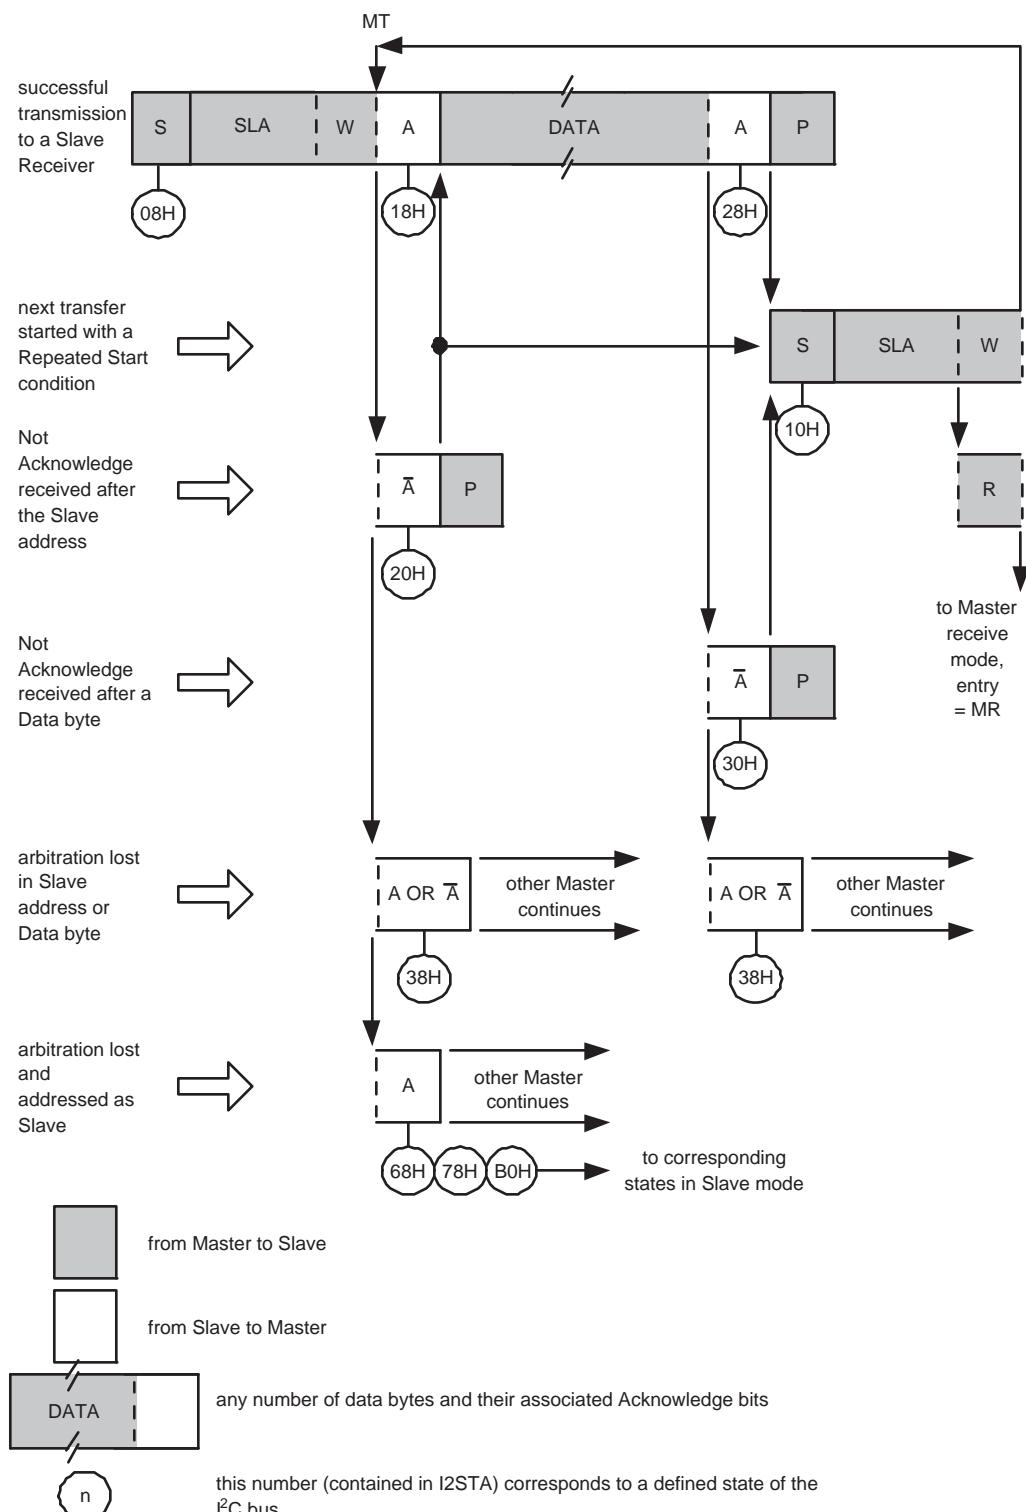
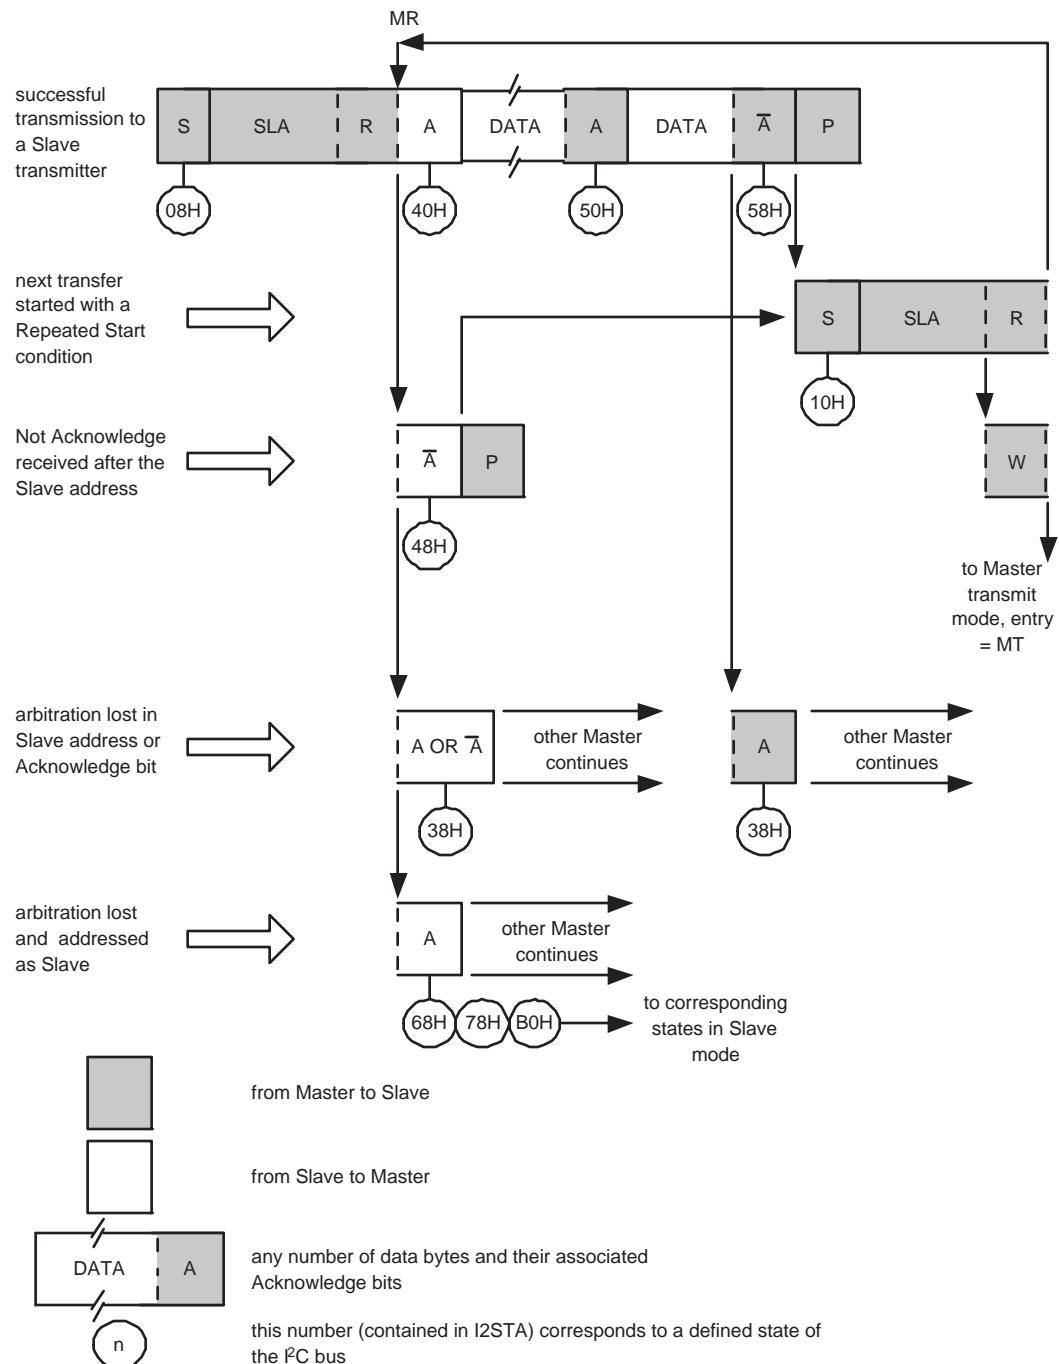
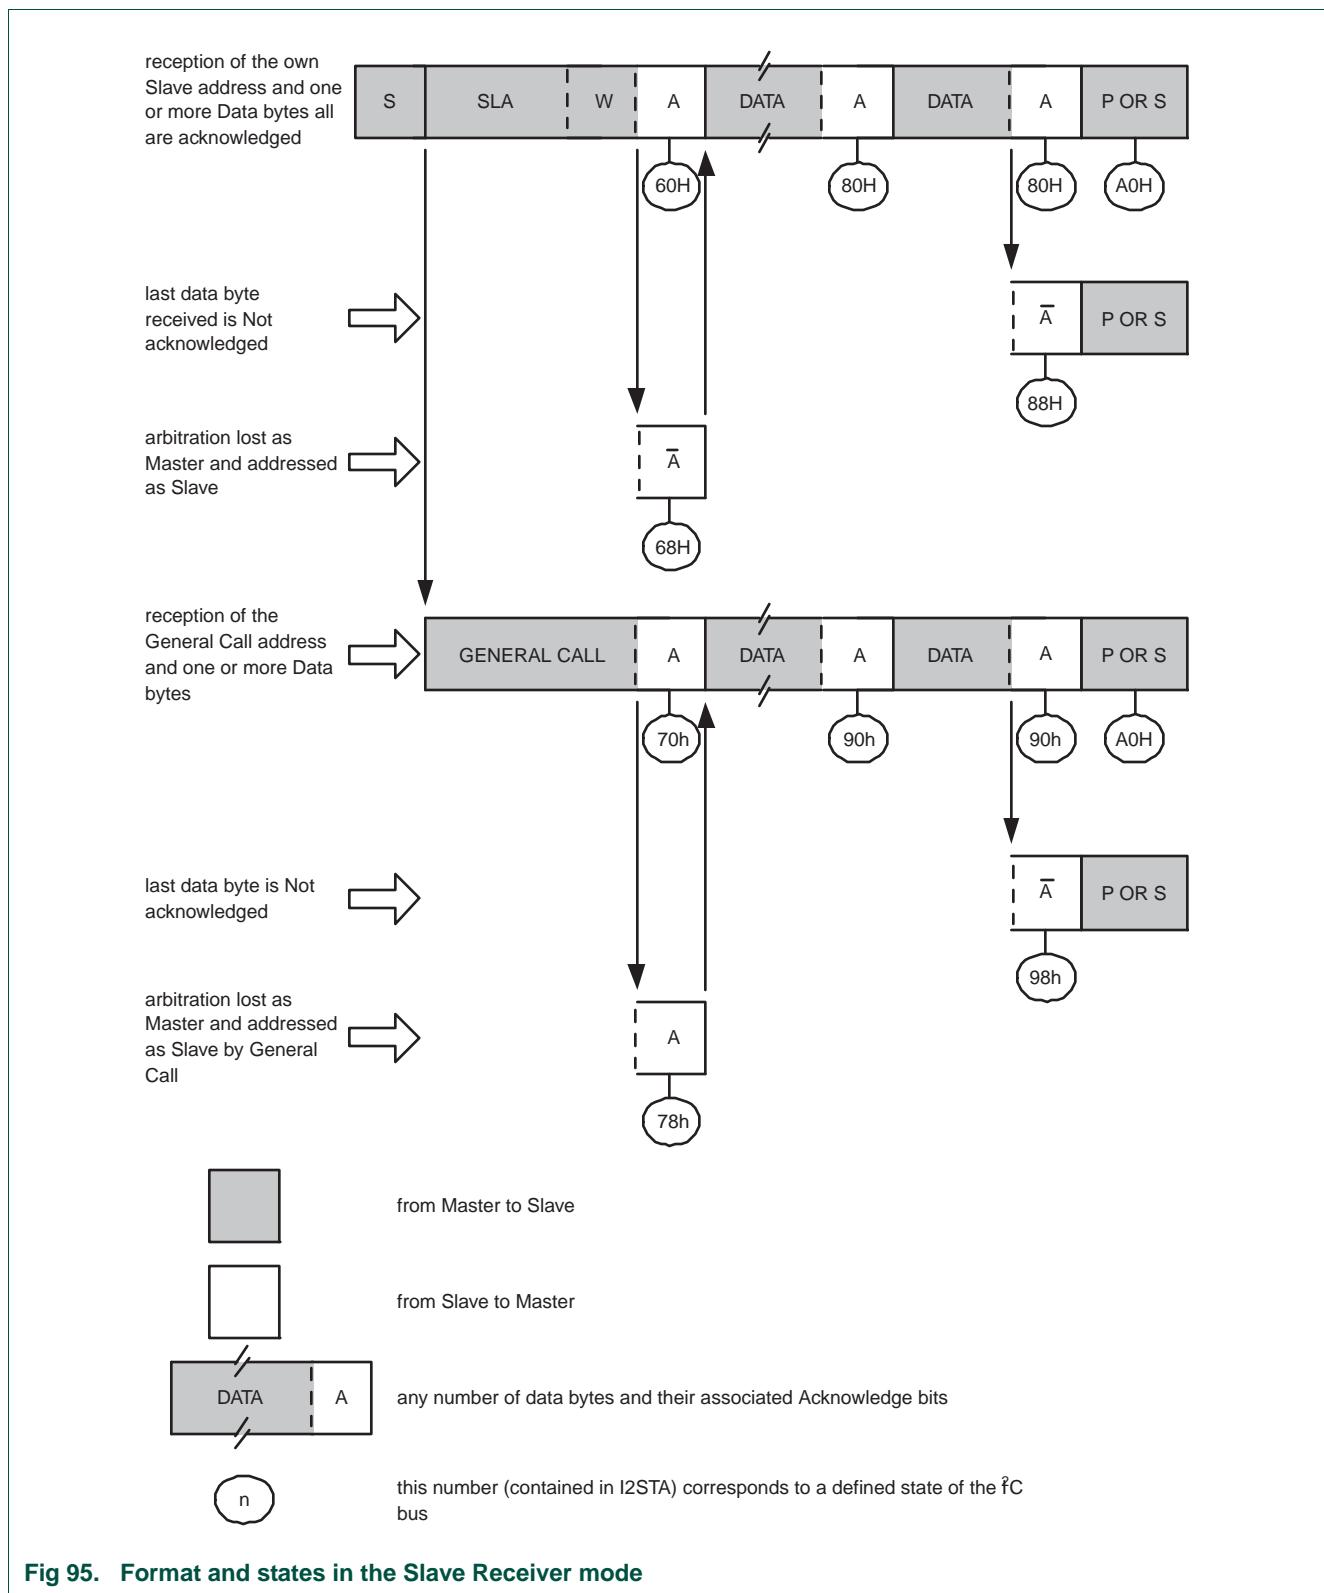
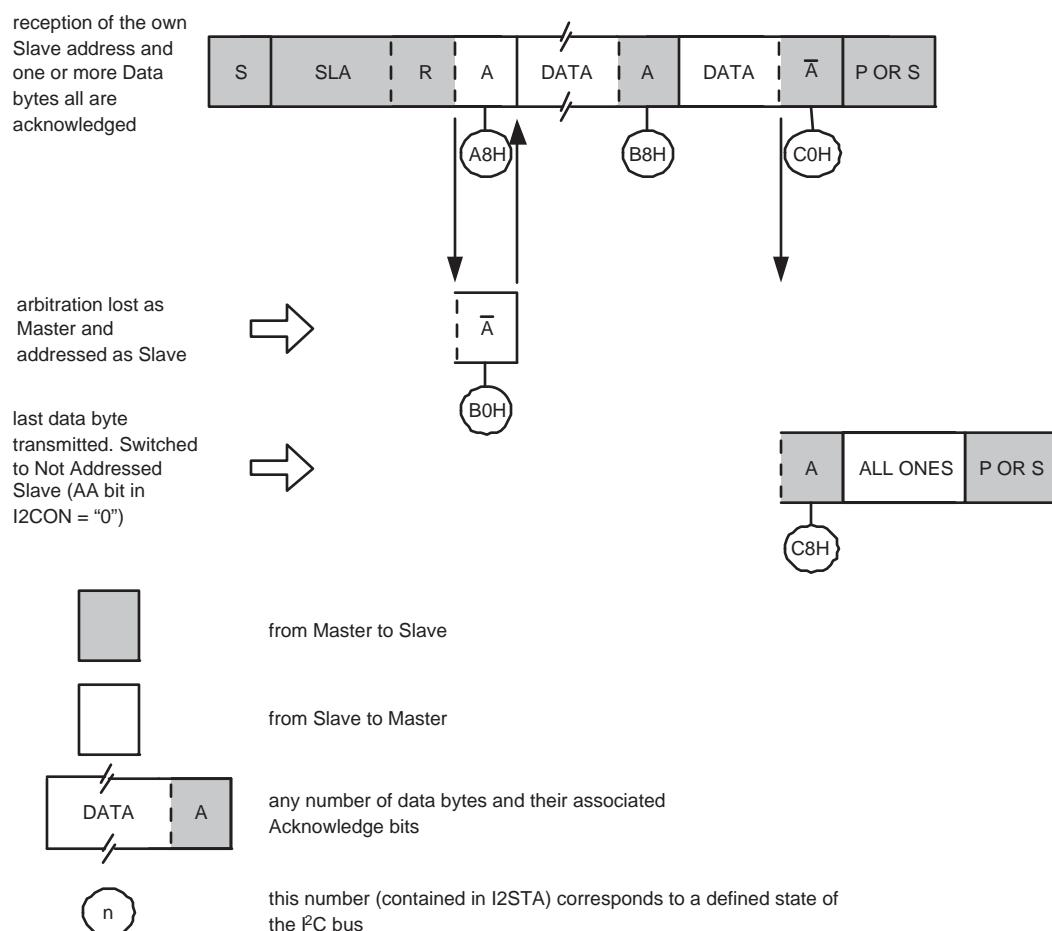

Fig 93. Format and states in the Master Transmitter mode
Fig 94. Format and states in the Master Receiver mode
Fig 95. Format and states in the Slave Receiver mode
Fig 96. Format and states in the Slave Transmitter mode
Data transfers in each mode of operation are shown in Figure 93, Figure 94, Figure 95, Figure 96, and Figure 97. Table 395 lists abbreviations used in these figures when describing the I²C operating modes.
In Figure 93 to Figure 97, circles are used to indicate when the serial interrupt flag is set. The numbers in the circles show the status code held in the I2STAT register. At these points, a service routine must be executed to continue or complete the serial transfer. These service routines are not critical since the serial transfer is suspended until the serial interrupt flag is cleared by software.
In the master transmitter mode, a number of data bytes are transmitted to a slave receiver (see Figure 93). Before the master transmitter mode can be entered, I2CON must be initialized as follows:
In the master receiver mode, a number of data bytes are received from a slave transmitter (see Figure 94). The transfer is initialized as in the master transmitter mode. When the START condition has been transmitted, the interrupt service routine must load I2DAT with the 7-bit slave address and the data direction bit (SLA+R). The SI bit in I2CON must then be cleared before the serial transfer can continue.
In the slave receiver mode, a number of data bytes are received from a master transmitter (see Figure 95). To initiate the slave receiver mode, I2CON register, the I2ADR registers, and the I2MASK registers must be configured.
In the slave transmitter mode, a number of data bytes are transmitted to a master receiver (see Figure 96). Data transfer is initialized as in the slave receiver mode. When I2ADR and I2CON have been initialized, the I²C block waits until it is addressed by its own slave address followed by the data direction bit which must be “1” (R) for the I²C block to operate in the slave transmitter mode. After its own slave address and the R bit have been received, the serial interrupt flag (SI) is set and a valid status code can be read from I2STAT. This status code is used to vector to a state service routine, and the appropriate action to be taken for each of these status codes is detailed in Table 401. The slave transmitter mode may also be entered if arbitration is lost while the I²C block is in the master mode (see state 0xB0).